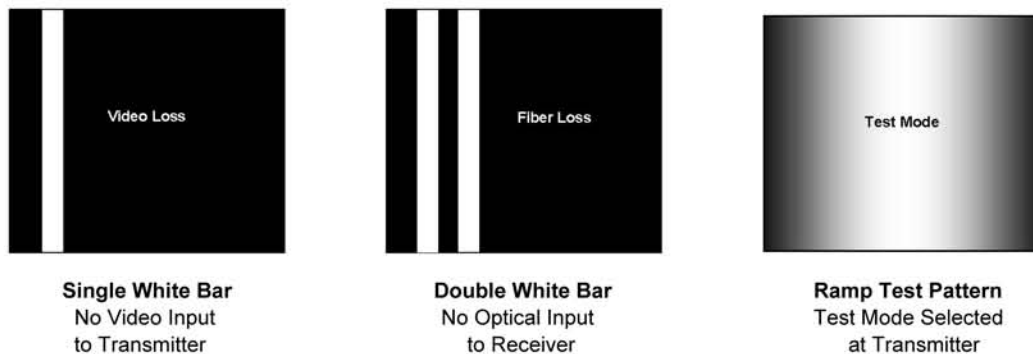

Figure 13. On-Screen Monitor Displays
Follow the procedures described in paragraph 2.5 to enable the test pattern generator. Figure 13 shows the test patterns displayed on the monitor.
- The monitor displays a ramp test pattern as shown in Figure 13.